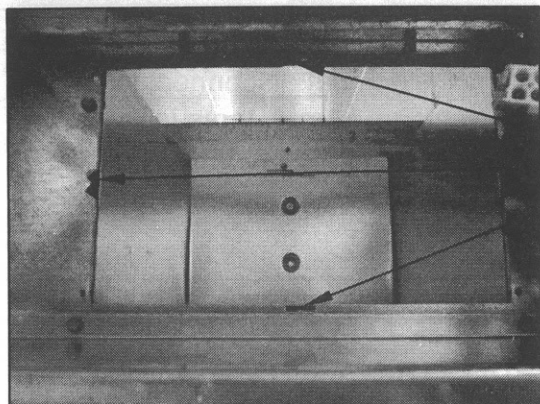

FIGURE 1
- 3.) With tin snips, cut the four tabs located at the center points of the edges of knock-out plate. (See fig. 1)